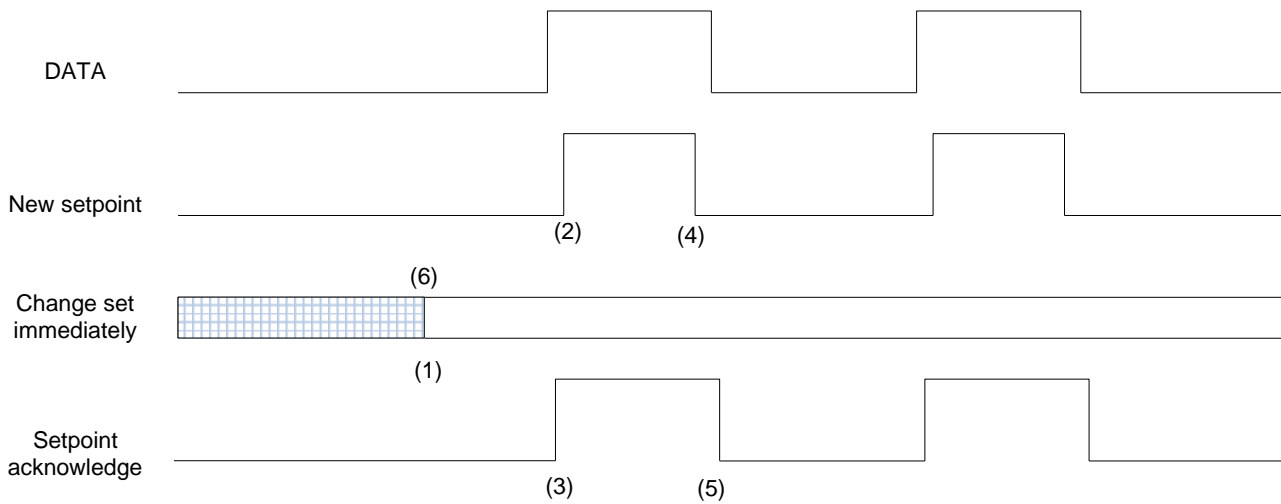
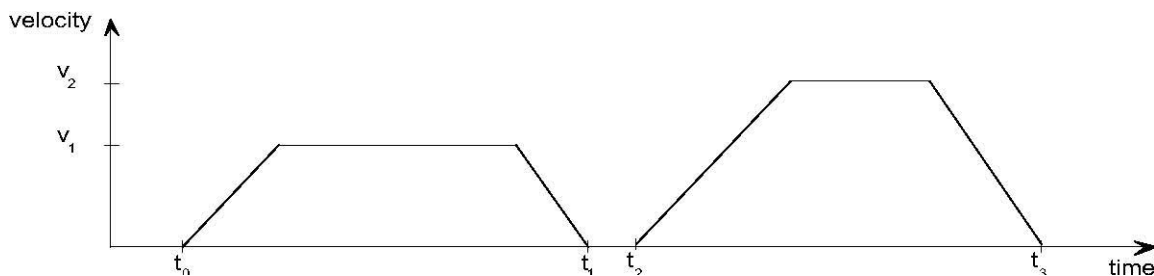
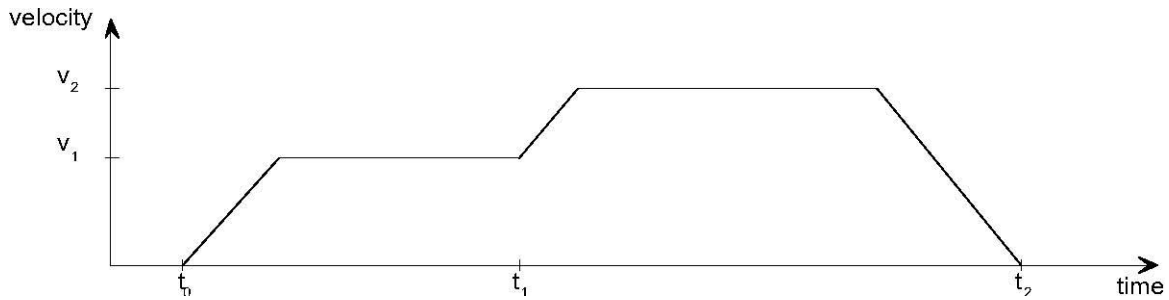

Figure 17: Set-point transmission from a host computer
Figure 18: Single set-point
Figure 19: Change set immediately
Figure 17, Figure 18 and Figure 19 show the difference between the "set of set-points" mode and the "single set-point" mode. The initial status of the bit ‘*change set immediately*’ in the *controlword* determines which mode is used. To keep simple these examples, only trapezoidal moves are used.
If the bit ‘*change set immediately*’ is "0" (continuously drawn line in Figure 17) a single set-point is expected by the drive (1). After data is applied to the drive, a host signals that the data is valid by changing the bit ‘*new set-point*’ to "1" in the *controlword* (2). The drive responds with ‘*set-point acknowledge*’ set to "1" in the *statusword* (3) after it recognized and buffered the new valid data. Now the host may release ‘*new set-point*’ (4) and afterwards the drive signals with ‘*set-point acknowledge*’ equal "0" its ability to accept new data again (5). In Figure 18 this mechanism results in a velocity of zero after ramping down in order to reach a *target position* x_1 at t_1 . After signaling to the host, that the set-point is reached like described above, the next *target position* x_2 is processed at t_2 and reached at t_3 .
If the bit ‘change set immediately’ is "1" (dashed line in Figure 17) the new target position will be active immediately. In Figure 19 the drive receives the first *target position* at t_0 . At the time point t_1 the drive receives a second *target position*. The drive readapts the actual move to the new target position immediately.